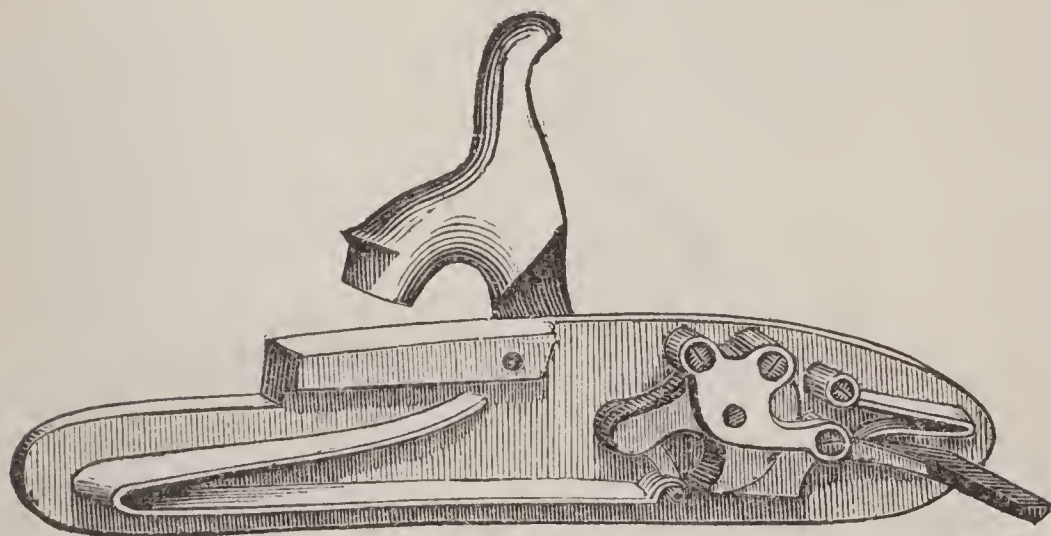

FIGURE 45.
*Side Action Lock.*—In Fig. 45 is shown another form of lock, commonly called a side action. The mechanism and arrangement is similar to the full bar, but it has a shoulder that fits up to the barrel.